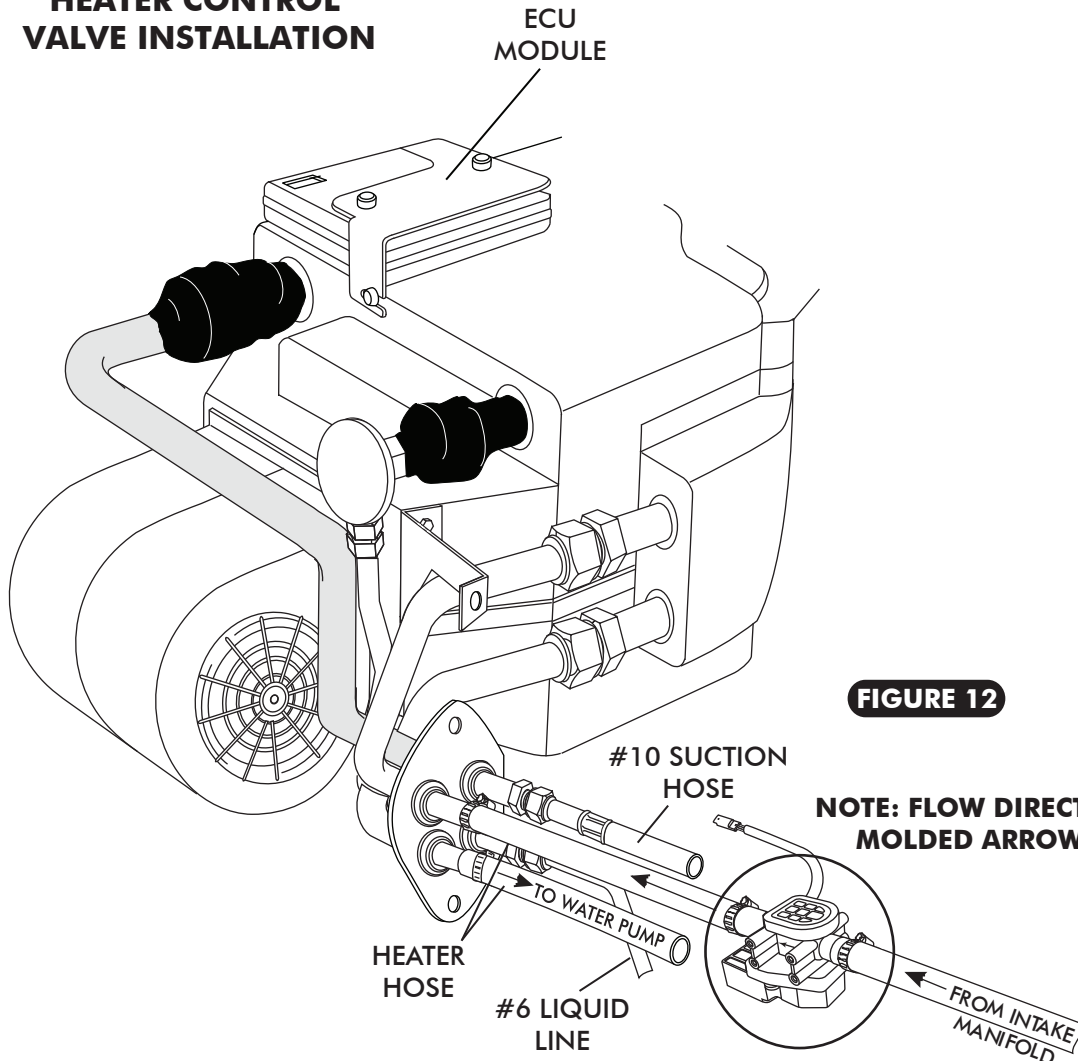

FIGURE 12
- ☐ INSTALL HEATER CONTROL VALVE IN LINE WITH INTAKE MANIFOLD (PRESSURE SIDE) HEATER HOSE. SEE FIGURE 12, PAGE 12.